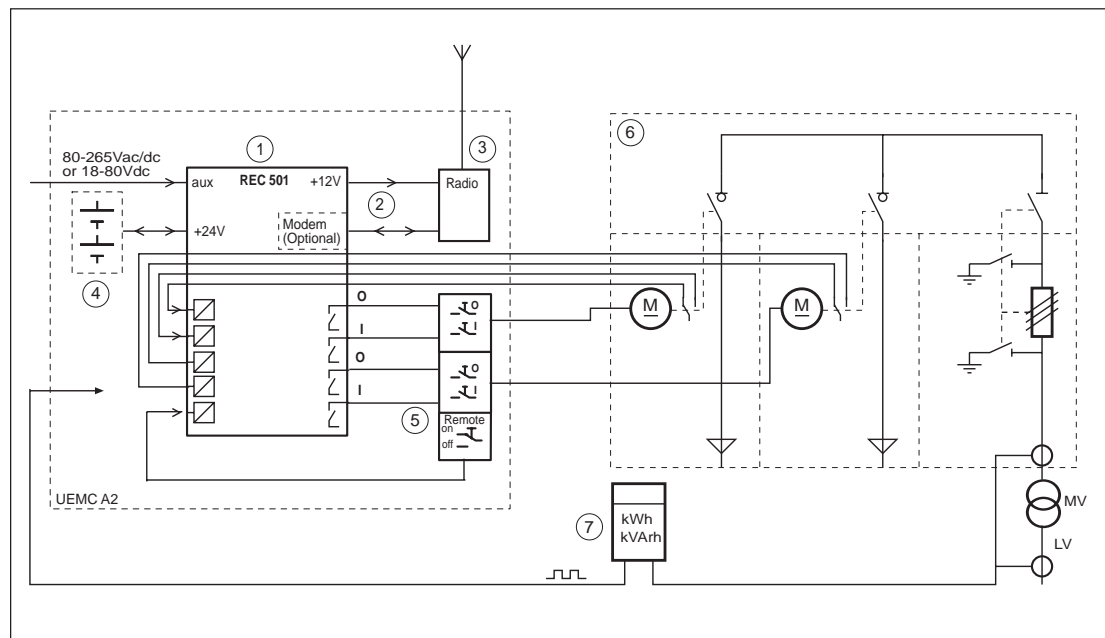

Fig. 1. A REC 501 unit used for remote control of a Ring Main Unit.
In the application illustrated in Fig. 1 the REC 501 unit is used for controlling and monitoring an RMU. The REC unit is located in the enclosure together with the basic components. The enclosure is fitted directly to the RMU. This assembly includes an enclosure, a REC 501 unit (1) with an optional modem (2), a radio telephone (3), two 12 V sealed lead acid batteries (4), local control push-buttons (5), a local / remote switch (5), miniature circuit-breakers (5), contactor logic (5) and the RMU (6).